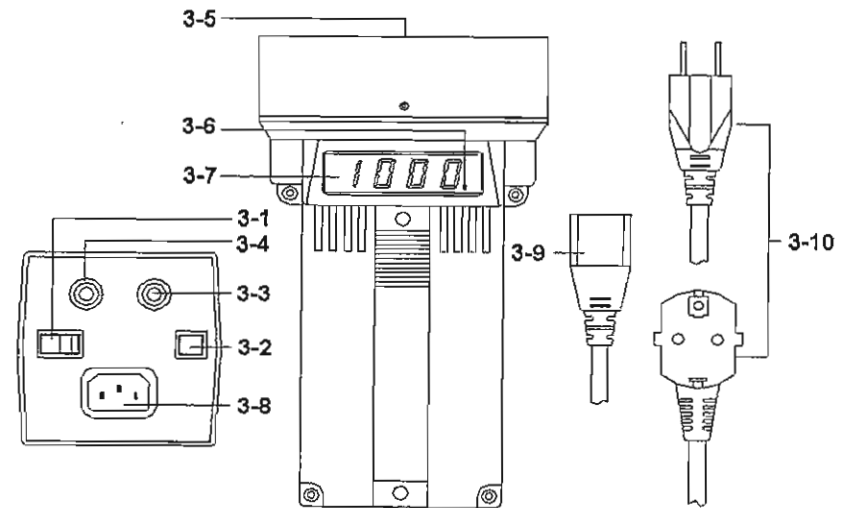

Fig. 1
- Connect the " Power Cord Connector " (3-9, Fig. 1) to the " Power Cord Input Socket " (3-8). Plug the " Power Cord Plug " (Fig. 1, 3-10) into a properly grounded 110V AC, 220V AC or 240V AC outlet.
- When checking the speed, care must be taken to ensure that the strobe is flashing in unison (one to one) with the object being monitored. Turn the " Fine Adjust Knob " (3-3, Fig. 1) or " Coarse Adjust Knob " (3-4, Fig. 1) until the mark look like " Stop " (synchronize).